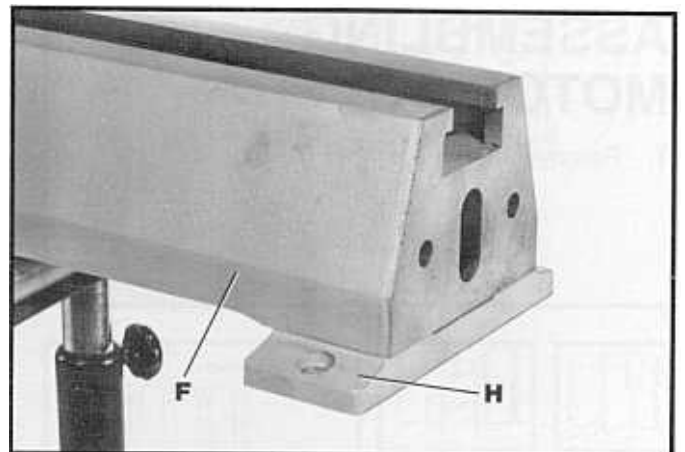

Fig. 11
2. Fig. 11, illustrates the foot casting (H) assembled to bottom of bed section (F).